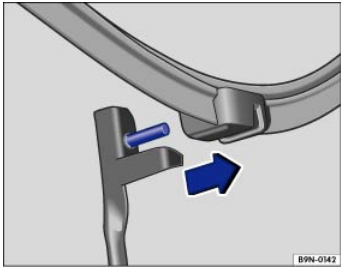

Fig. 192 Changing the windshield wiper blades.
- Tilt the wiper blade 90 ° clockwise to the wiper arm and pull off the wiper blade ⇒ Fig. 192.